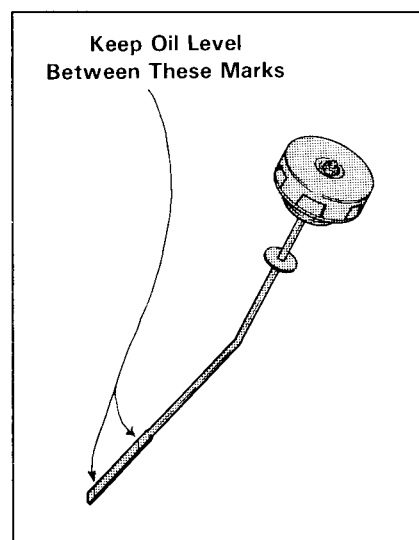

Fig. 1-36 Fluid Dipstick
- (4) If the level is below the bottom mark (Fig. 1-36), add the correct fluid (See Section 8 for the correct fluid), until the level of the fluid is at the top mark (Fig. 1-36).
- (5) Fill the reservoir to the top mark (Fig. 1-36) on the dipstick with the correct fluid (See Section 8 for the correct fluid).